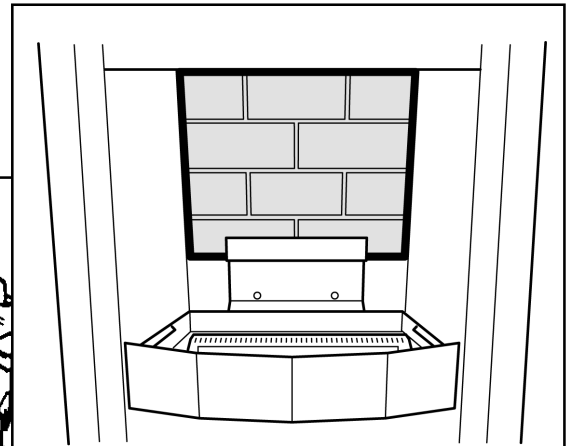

Figure 9. Ceramic Rear Wall Position
1. Fit the ceramic rear wall into the bracket at the back of the firebox .See figure 9.